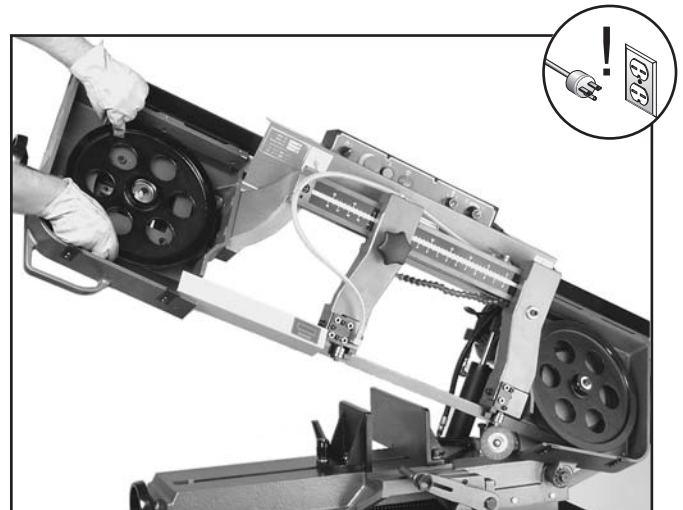

Figure 27. Typical blade installation.
7. Install the new blade into the front and rear blade guide roller bearings, as shown in **Figure 27**, then around the bottom and top wheels.